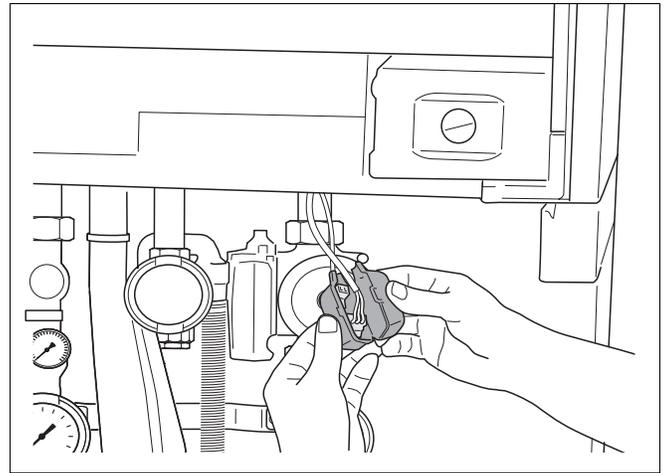
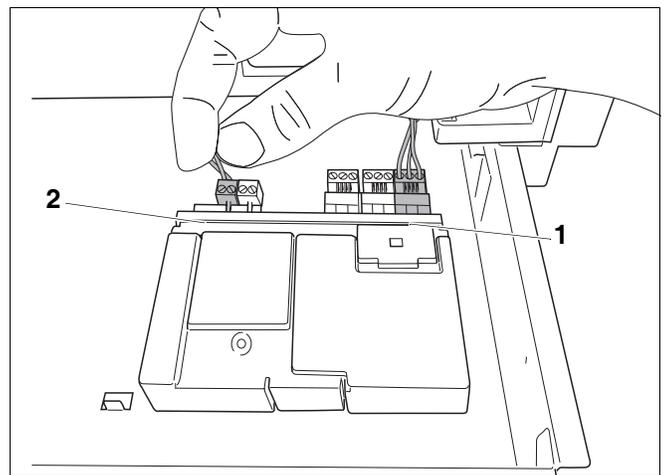
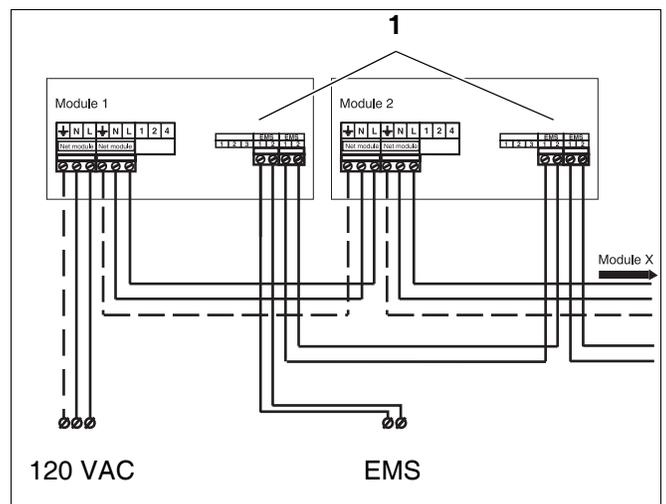

Fig. 37 Removing the covers
Fig. 38 Interconnecting modules
Fig. 39 Connecting several modules
- Remove the covers of both free connectors on the function module connection cables (fig. 37).
- Connect the free 120 VAC mains cable (fig. 37) to the module (fig. 38, pos. 1). If more modules are used, the 120 VAC supply for the second module can be taken from the first module using the cable enclosed with the module.
The module may have the letters RC or EMS above the connection (fig. 39, pos. 1).
- Connect the free connector of the EMS bus connecting cable (fig. 38) to the first module (fig. 39).
- If more modules are used, the EMS bus connection for the second module may be branched off from the first module using the cable enclosed with the module (fig. 39 and 41).
- Connect the wire from terminal 1 to terminal 1 and from terminal 2 to terminal 2 (fig. 39 and 41).